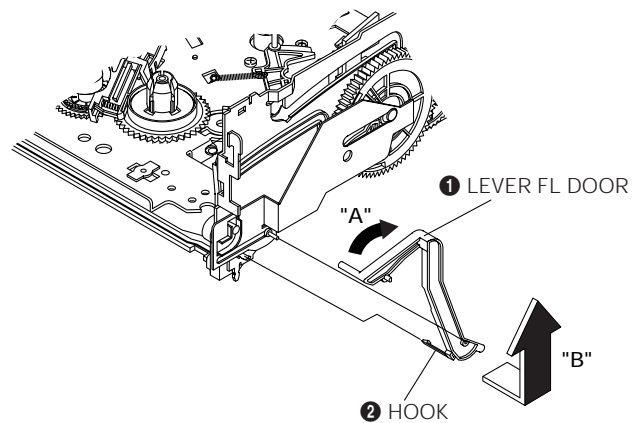

Fig. 4-5 Lever FL Door Removal
1. Remove the Lever FL Door. (Refer to Fig. 4-5)
2. Pull the Holder FL Cassette Ass'y ❶ to the eject position.
3. Pull the Holder FL Cassette Ass'y ❶ as grasping the Holder FL Cassette Ass'y ❶ and Lever FL Cassette-R ❷ in the same time to release hooking from Main Base until the Boss [A], [B] of Holder FL Cassette Ass'y ❶ is taken out from the Rail [C], [D].
4. Lift the Holder FL Cassette Ass'y ❶ in the direction of arrow "B" in this time, you have to grasp the Lever FL Cassette-R ❷ continuously until the Holder FL Cassette Ass'y ❶ is taken out completely.